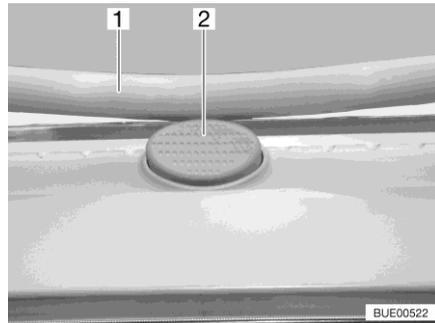

Fig. 111 Safety knob (Heki skylight)
- Press the safety knob (Fig. 111,2) and pull the bar (Fig. 111,1) down with both hands.
- Push the bar upwards with both hands until it is above the safety knob (Fig. 111,2).